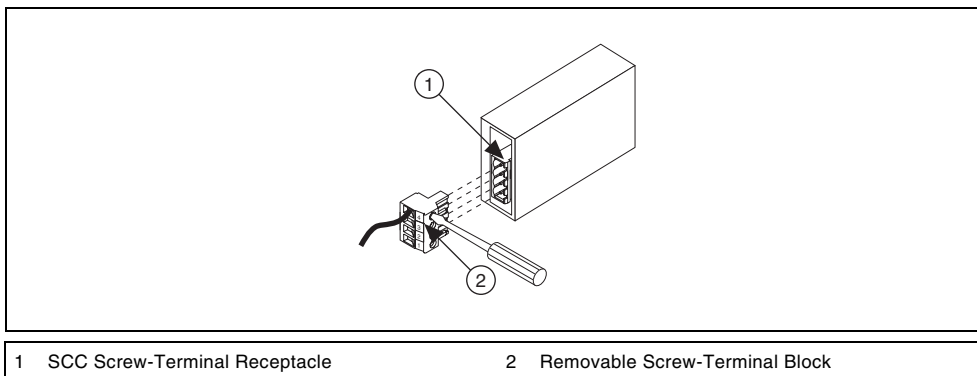

Figure 6. SCC-XX Two-Part Screw-Terminal System
3. Insert the wires into the screw terminals. The SCC-XX module has a fixed screw-terminal receptacle and a removable screw-terminal block, as shown in Figure 6.